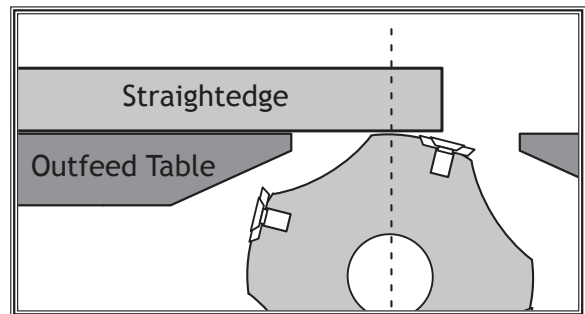

Figure 37. Example of straightedge just touching cutterhead body.
3. Place straightedge on outfeed table so it hangs over cutterhead, then insert included Torx driver into cutterhead rotation guide and rotate cutterhead until straightedge just touches cutterhead body (see **Figure 37**).